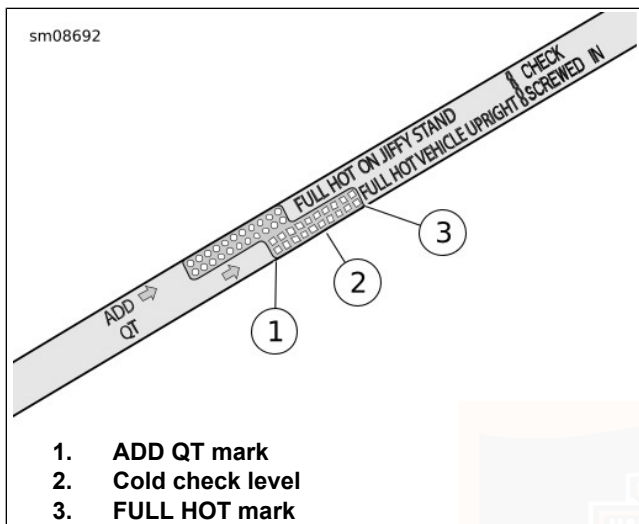

Figure 63. Engine Oil Dipstick (VEHICLE UPRIGHT Gauge)
- e. See Figure 63. Check oil level. The correct cold oil level is midway (2) between the ADD QT (1) and FULL HOT (3) marks on the dipstick.
5. Check oil level. Add only enough to bring level midway between the ADD QT (1) and FULL HOT (3).
- e. See Figure 63. Check oil level. Oil level must register between the ADD QT and FULL HOT marks on the dipstick.